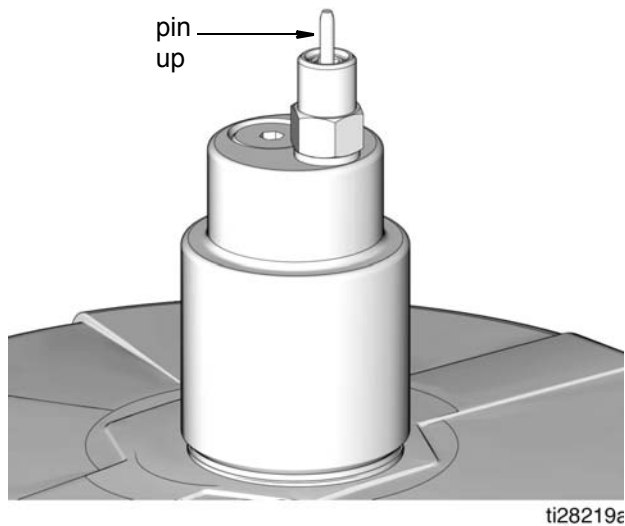

FIG. 13
2. Connect Supply Hose (G) at Quick Connect (V).
3. Turn on remote filling station pump (F) and fill the G3 reservoir (D) until the indicator pin on the Auto-Fill Valve pushes up as shown in FIG. 13. The pressure in the refill pump (F) builds and the pump stalls.